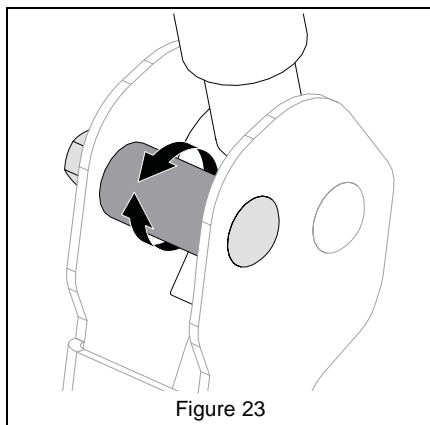

Figure 23
5. Turn eccentric spacer so levers are at the same height and have a 1.3 cm – 2.5 cm (1/2" – 1") gap between lever ends. See Figure 23.